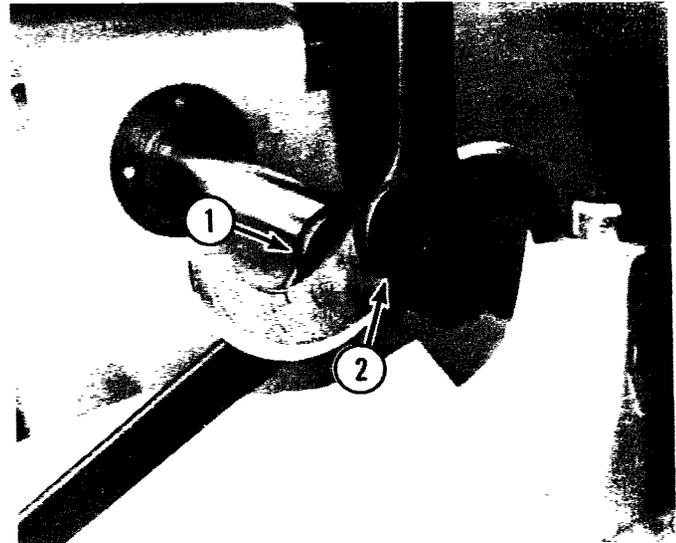

Fig. 2-5
- (1) Disassemble the knife assembly while it is mounted on the shaft.
- (2) Loosen the fluted knob but do not remove.
- (3) Keep the sleeve from turning by holding a flat wrench on the flats of the bushing (1, Fig. 2-5).
- (4) Loosen the locking collar with a second wrench (2, Fig. 2-5) by tapping counterclockwise with a plastic mallet.
- (5) Remove the knives, locking collar and bushing.